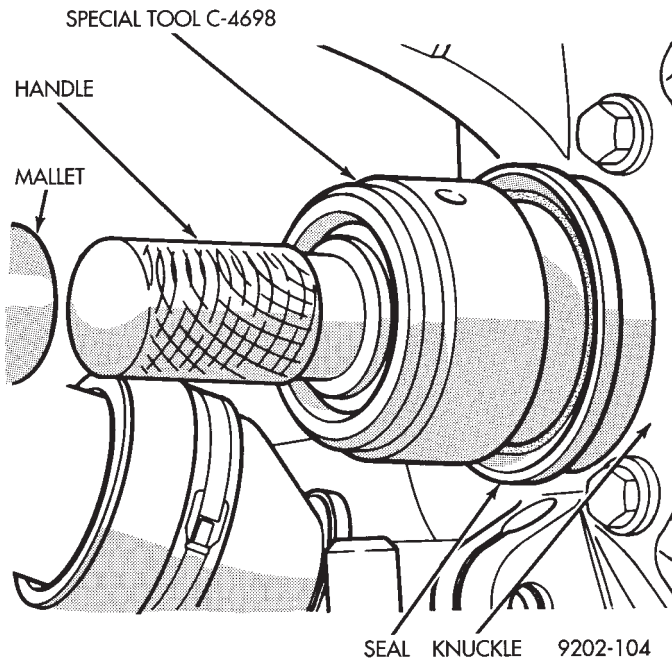

Fig. 11 Bearing Seal Installation
(2) Position new hub and bearing assembly seal in recess of the steering knuckle (Fig. 11). Assemble Installer, Special Tool C-4698. Tool is provided with a handle and dual purpose drive head for installing seal into knuckle and (head reversed) for installing wear sleeve onto C/V joint housing.
(3) Using Special Tool C-4698 (Fig. 11) install the hub and bearing seal, until fully seated into the steering knuckle recess.